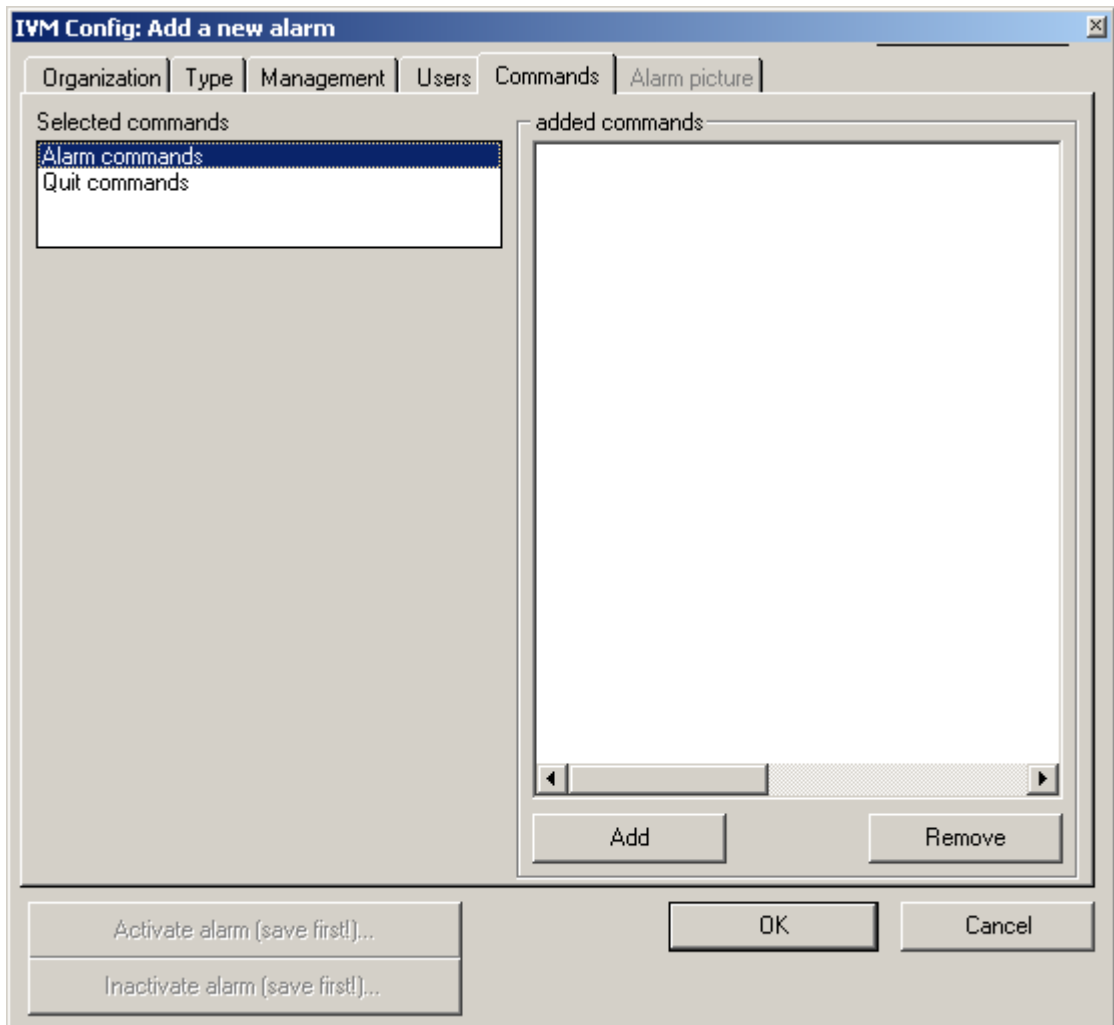

Fig. 106 Edit alarm properties – Commands
1. Select the **Commands** tab (see Fig. 106).